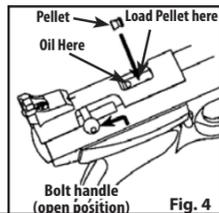

Fig. 4
2. Cock the bolt by lifting the bolt handle up and pulling the bolt all the way back (Fig. 4).
3. Cock the bolt by lifting the handle up and pulling the bolt all the way back until you hear two clicks (see Fig. 4).